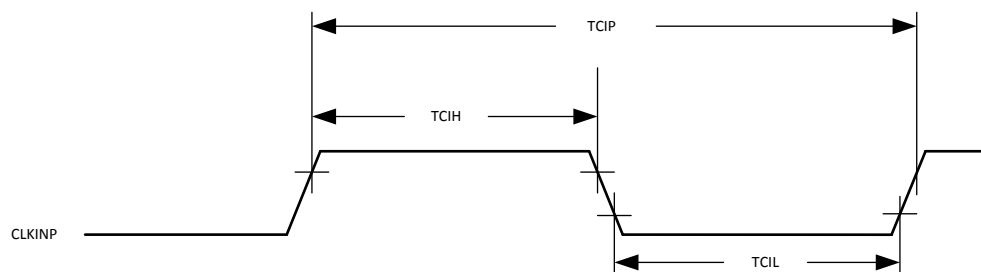
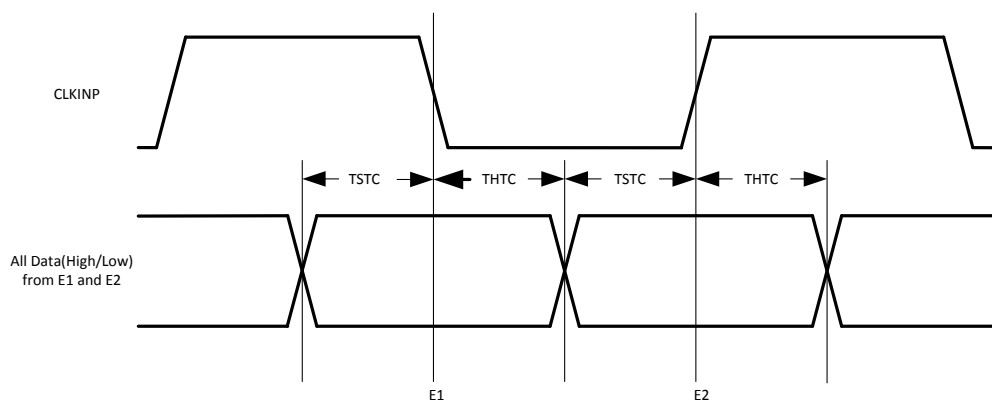

Figure 5. DS90C2501 (Transmitter) Input Clock High/Low Times
Figure 6. Setup/Hold Times, $V_{REF} = 0.900V$, EDGE = Gnd, DUAL = V_{CC} , BAL = Gnd
(1) Ensured by Design
(2) The limits are based on bench characterization of the device's jitter response over the power supply voltage range. Output clock jitter is measured with a cycle-to-cycle jitter of ± 20% data input bit time applied to the input clock signal while data inputs are switching (see Figure 5 and Figure 6). This parameter is used when calculating system margin as described in AN-1059.
(3) From V = 1.25V of CLKINP to V_{DIFF} = 0V of CLK1P when EDGE pin = Gnd, DUAL pin = Gnd or V_{CC} or ½V_{CC}, BAL pin = Gnd.